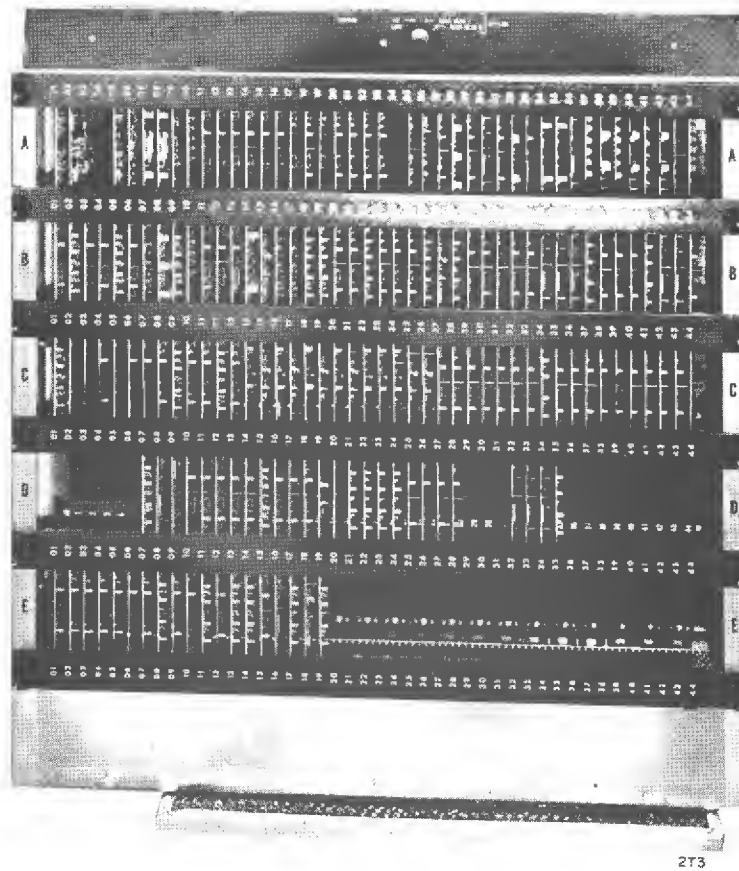
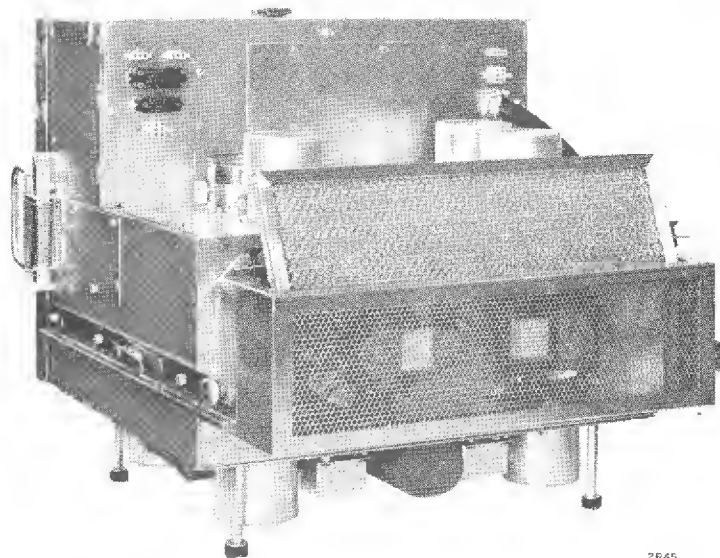

Figure 5-3. Air Filter at Bottom of Logic Chassis
Figure 5-4. Air Filter at Rear of Power Supply
1. Remove the air filters from bottom of the logic chassis (Figure 5-3) and at the rear of the power supply (Figure 5-4).